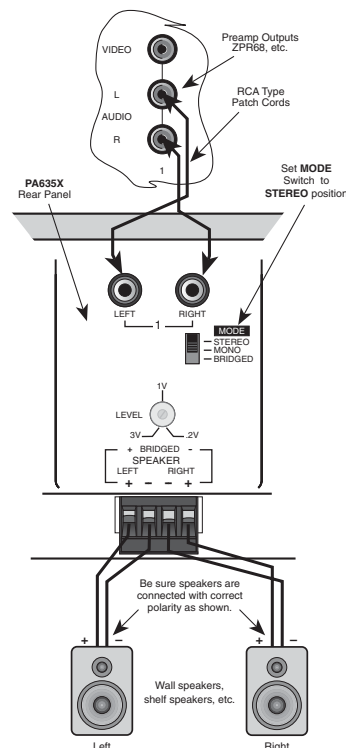

FIGURE 5 - PA635X STEREO MODE CONNECTIONS
1. Using good quality RCA-type patch cables connect the L and R OUTPUT jacks of the driving preamp to the LEFT and RIGHT input jacks on the PA635X. Do this for each amplifier pair. Refer to Fig. 5.
5. Be sure to observe correct polarity by connecting the "+" and "-" terminal from each channel on the PA635X to the corresponding "+" and "-" terminals on each speaker. This will ensure correct "phasing" - see Fig. 5 and Speaker Phasing below. Since the connectors are removable, you may unplug them for ease of lead assembly.
- a) If the "+" (positive) and "-" (negative) terminals on your speakers are correctly marked, and visible, and you have wired the system as shown in Figs. 5 and 6, then the system will be "in phase". No further action is required. Most manufacturers identify the positive terminal with a red binding post, a "+" sign, or a red dot.